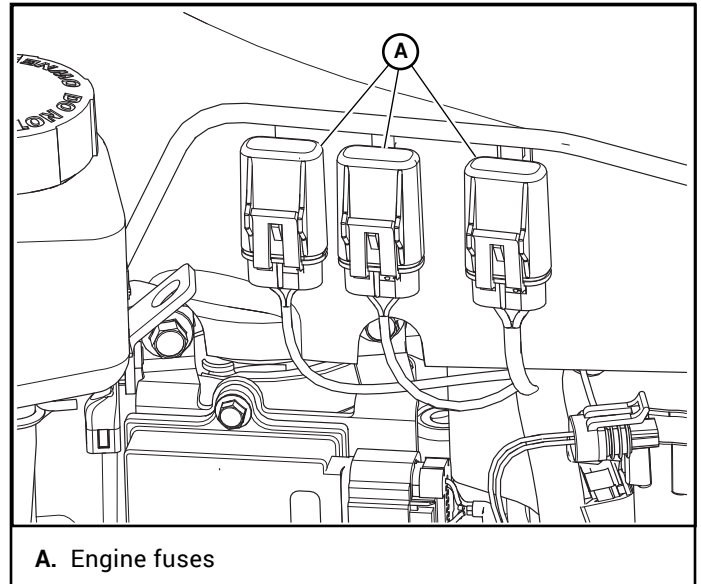

Figure 4-2
Mowers equipped with the Kohler EFI engines have three (3) engine fuses. Refer to the Kohler engine owner's manual for detailed information. Figure 4-2
Each transaxle has its own hydraulic expansion tank. The tanks are located in front of the engine and behind the operator's platform. Figure 4-2